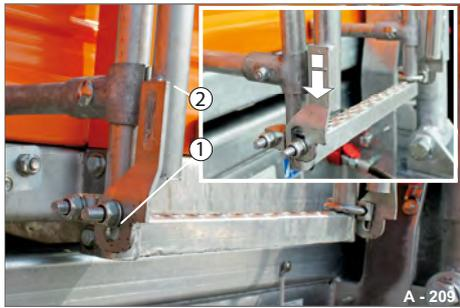

Fig. 223 Locking access ladder
- Slide the foldable part (Fig. 223/2) downwards to a vertical position. The foldable part engages in the slot (Fig. 223/1).